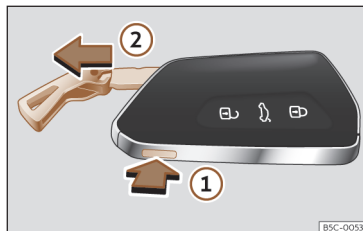

Fig. 71 Vehicle key: remove the key blade.
- Press the >>> **Fig. 71 ①** button to release the ring from the key fob and remove the key blade **②**. Pressing lightly on the ring leaves it fixed as a key fob.
- Press the >>> **Fig. 71 ①** button to unlock. Press and hold button **①** and at the same time pull on the ring in the direction of the arrow >>> **Fig. 71 ②** to completely remove the key blade.